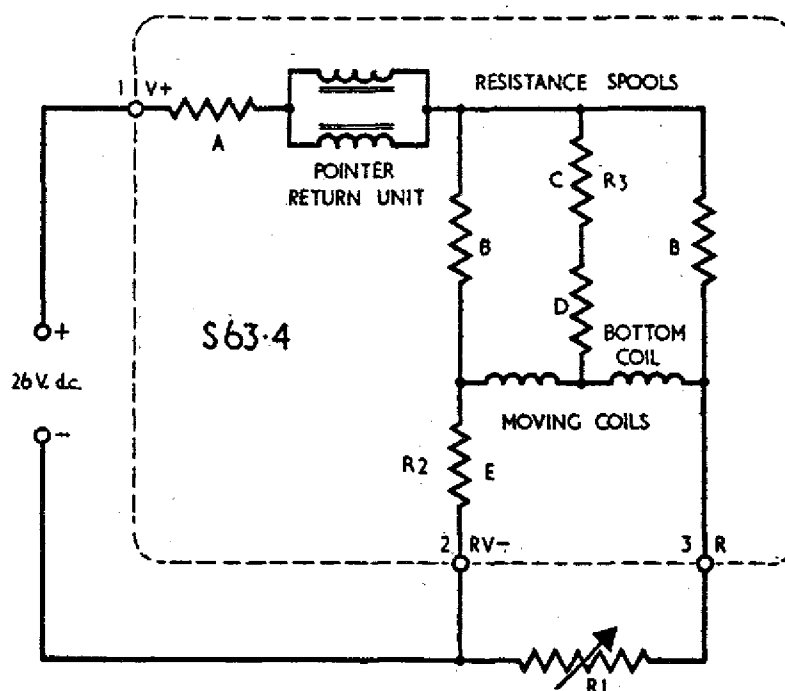

Fig. 5 Test circuit diagram Temperature indicator
- (1) Having checked correct adjustment of jewelled bearings apply a voltage of 26 volts d.c. to the indicator circuit.
- (2) Connect external resistance boxes, shown in Fig. 5, 6 or 7 in place of the resistance bulb, pressure or position transmitter; place the indicator in the horizontal plane and adjust resistance boxes to deflect pointer to mid-scale. The permissible error when balancing must not be worse than 2% with the movement energised.
- (3) Adjust the balance weights to maintain the pointer within 2% of the full scale range value in the following manner:
A. Temperature indicator (Refer to Fig. 5)
- (1) The temperature indicator is used in conjunction with a suitable transducer, such as a Sangamo Weston S.110 or S.110G resistance bulb. For spool adjustment purposes a decade resistance box R1 is substituted for the transducer. To determine the correct scale length for the required temperature range spools C and E will require adjustment, the values of all other spools are pre-determined. Spool D must never be re-adjusted to obtain correct scale length, this spool has been wound with copper wire and its value has been carefully calculated to give the instrument a low temperature coefficient.
- (2) If the spools have been assembled and connected undo screw (29) retaining sub-base (37) to base (35), disconnect spools C and E and remove. Substitute decade resistance boxes R1, R3 and R2 for the transducer and spools C and E.
- (3) Set R1 to the equivalent resistance value for mid-scale indication, (see relevant addendum calibration table) for the particular variant under test and apply 26 volts d.c. to indicator terminals. Adjust R2 to approximate value for spool E then adjust R3 to shift indicator pointer to approximately mid-scale position.
Connect the indicator as shown in Fig.5. Check readings against the appropriate settings of the decade resistance box according to the calibration table which will be found in the appropriate addendum at the rear of this manual and recalibrate the indicator if necessary to obtain correct indication for the resistance values.